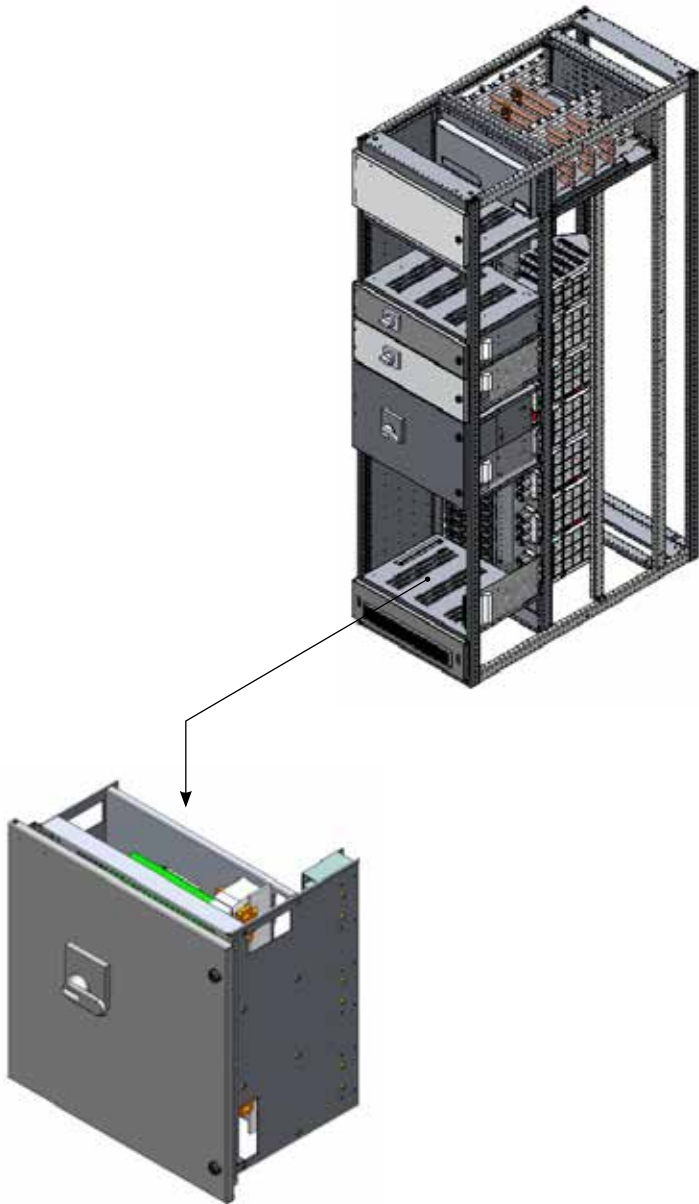

Fig. 13 Plug-In Module (fixed MCCB)
- rear plug-in module (see fig. 13).